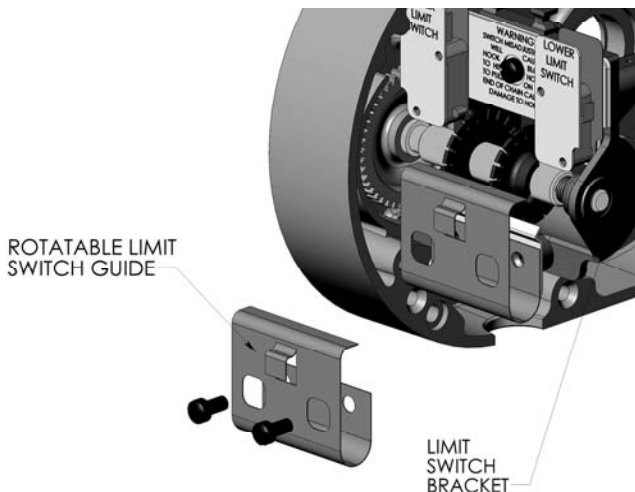

Figure 18A. Rotatable Limit Switches, Models B, C & F
4. Refer to Figure 18A and assemble the rotatable limit switch guide from the kit to the limit switch bracket (spring back the guide tab to engage the slots in the traveling nuts) using the screws provided. Securely tighten the screws.